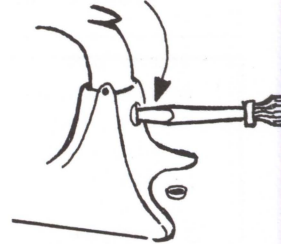

Fig. 41
Remedy: Most mixers are provided with an adjustment to raise and lower the beaters in the mixing bowl. Fig. 41. Find this adjustment on your mixer, loosen the lock nut and turn the screw until the beaters just touch the bowl. Tighten the lock nut.
1. Lubrication: Many mixers have sealed bearings which are packed with grease at the factory. Older mixers, as shown in Fig. 41, require lubrication. If the mixer is used frequently, it should be oiled every two weeks with 1 or 2 drops of light machine oil. If the mixer is not used often, it should be oiled once a month. The front cover should be removed at six-month intervals and the grease in the gear case examined. The old grease should be cleaned out and new grease added if necessary.